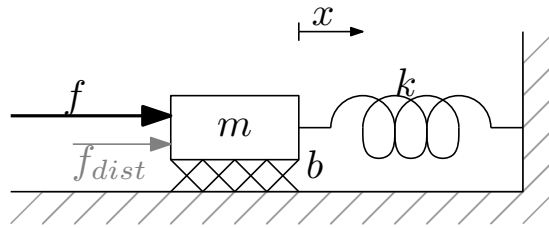

Figure 1: Damped spring-mass system with an actuator.
1. Consider a 1-DOF spring-mass system with friction (Fig. 1). We assume that the mass is $m = 16$, the spring constant equals $k = 4$, and the friction coefficient is given by $b = 16$. Thus, we can describe the system by the equation of motion: $16\ddot{x} + 16\dot{x} + 4x = f$.